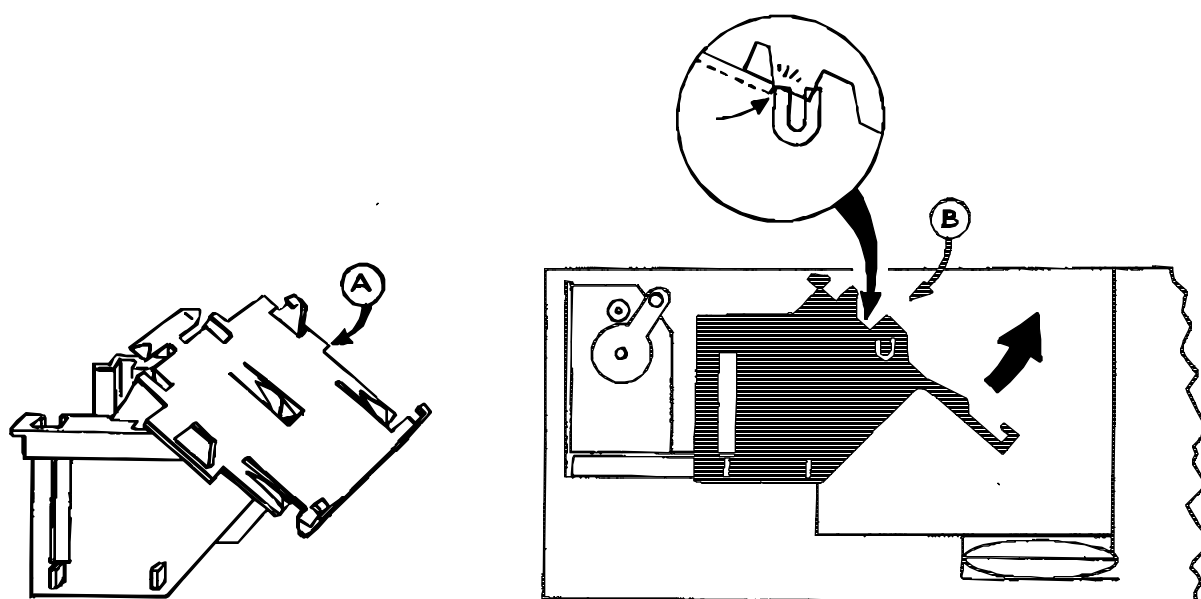

Figure 4-24 Sliding Carrier
- 16.3 Slide Carrier to right (toward base of Camera) and lift slightly so that projecting tab "A" on Carrier slides past projection "B" on Base Block. (Fig. 4-24)